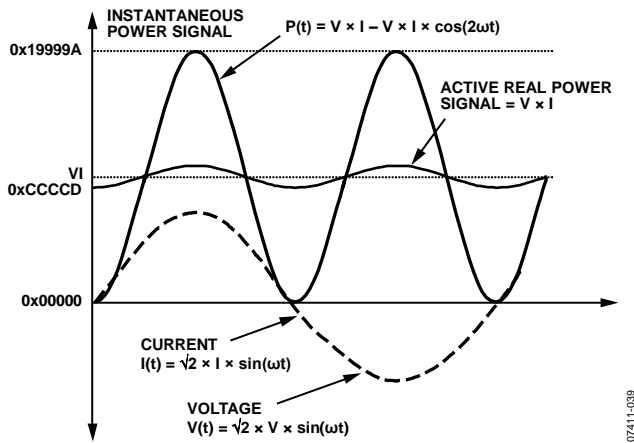

Figure 64. Active Power Calculation
Note that the active power is equal to the dc component of the instantaneous power signal, $P(t)$, in Equation 9, that is, V_I . This is the relationship used to calculate active power in the ADE5166/ADE5169/ADE5566/ADE5569. The instantaneous power signal, $P(t)$, is generated by multiplying the current and voltage signals. The dc component of the instantaneous power signal is then extracted by LPF2 (low-pass filter) to obtain the active power information (see Figure 64).
As mentioned in the Active Energy Calculation section, the discrete time sample period (T) for the accumulation register is 1.22 μ s (5/MCLK). With full-scale sinusoidal signals on the analog inputs and the WGAIN register (Address 0x1D) set to 0x000, the average word value from each LPF2 is 0xCCCCD (see Figure 64). The maximum positive value that can be stored in the internal 49-bit register is 2^{48} (or 0xFFFF FFFF FFFF) before it overflows. The integration time under these conditions when WDIV = 0 is calculated in the following equation: